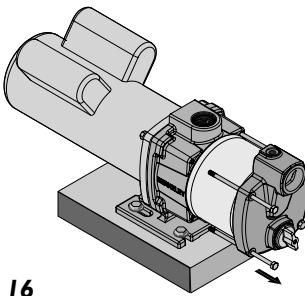

Figure 16
5. Remove four capscrews (Key No. 17) from the pump (see Figure 16).